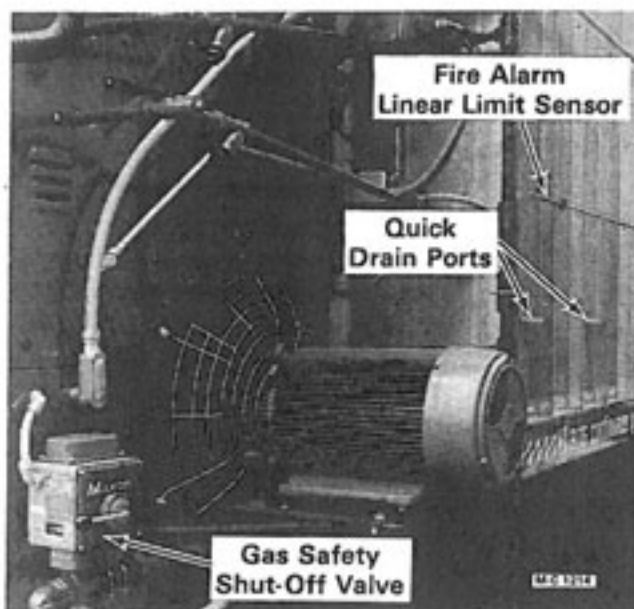

Figure 25
The linear limit sensors on the outside of the dryer screens monitor the exhaust air temperature, see Figure 25. The temperature operating range of the sensors is pre-set and is not adjustable.
The safety shut-off valve shuts off the main gas supply to the dryer see Figure 25.
3. Reset the safety shut-off valve manually. The reset lever is on the side of the valve, see Figure 25.